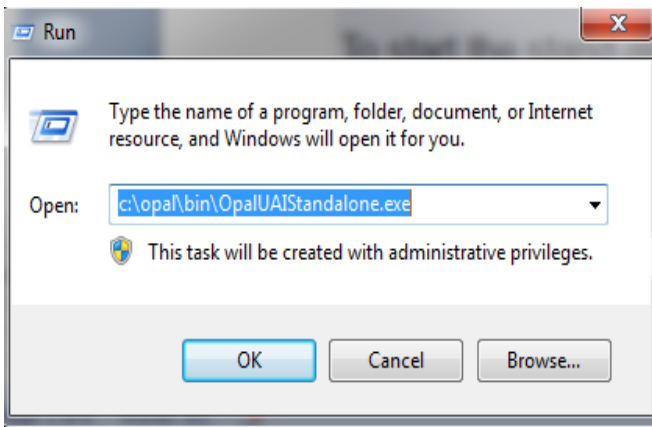

Figure 1
1. Run Command enter `c:\opal\bin\OpalUAIStandalone.exe` – **Figure 1**